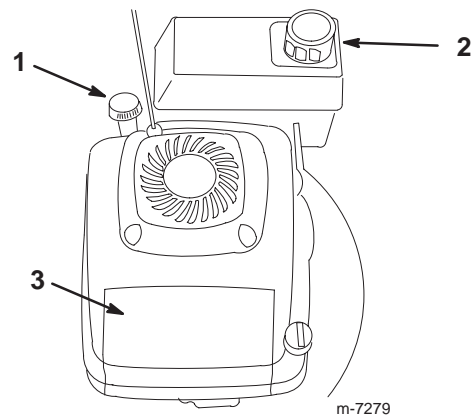

Figure 8
1. Clean around the fuel tank cap (Fig. 8).
- Open the fuel valve (Fig. 8).
- Pull the starter handle (Fig. 8) lightly until you feel resistance, then pull it sharply.